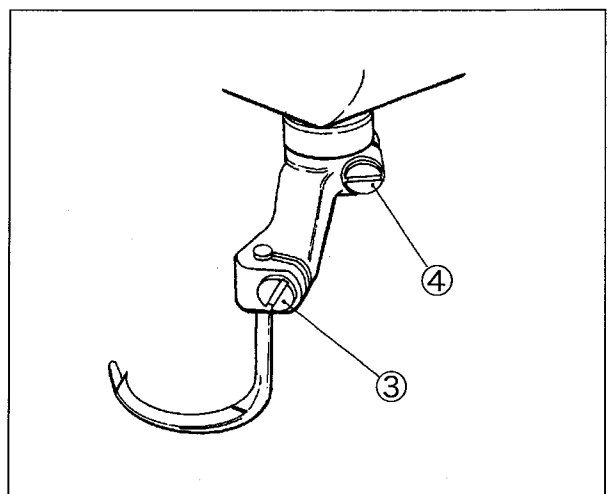

Fig. 45
- (1) Loosen the screws ③ and ④ of the spreader holder. (Fig. 45)